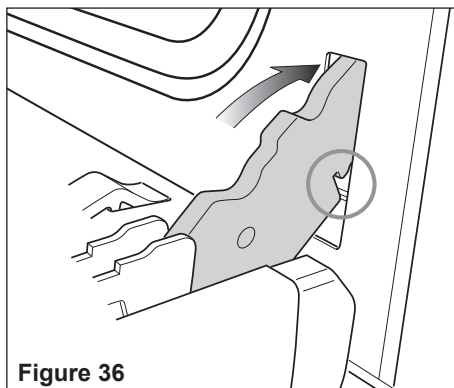

Figure 36
- Insert the hinge tongues into the slots, making sure that the groove drops into place as shown in the fig. 36.